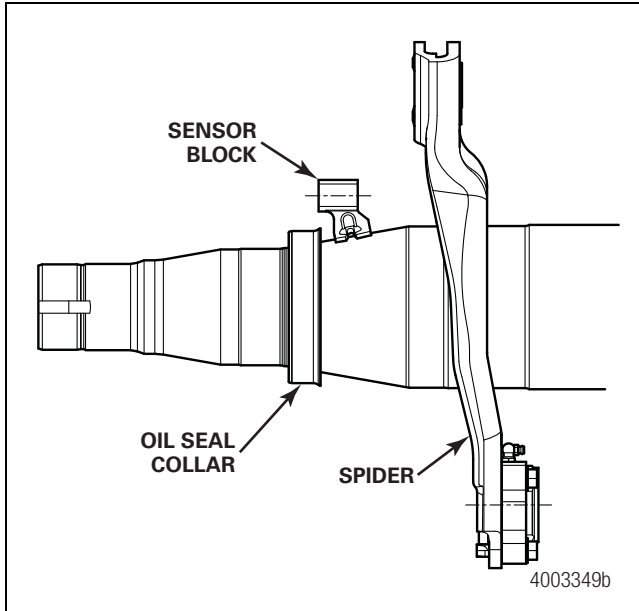

Figure 12.4
- **Sensor Block** — Welded to the axle between the spider and oil seal collar, the sensor block holds the sensor in correct position relative to the tooth wheel. Figure 12.4.